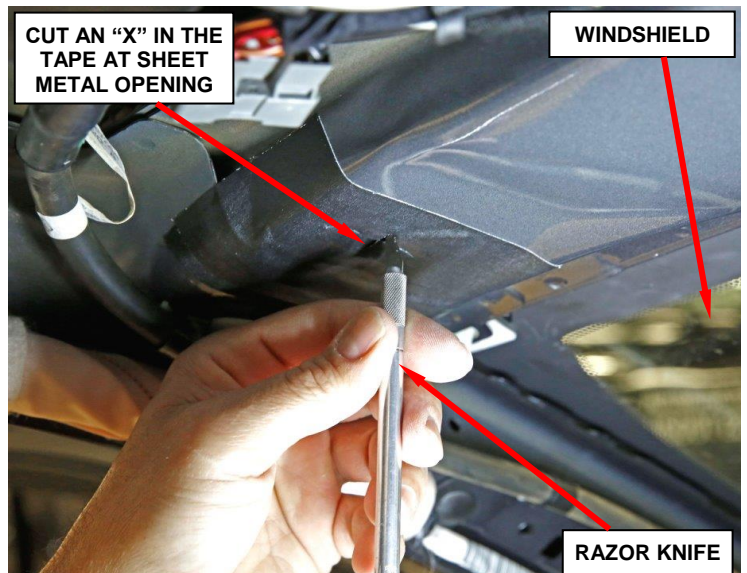

Figure 22 – Cut an “X” in the Tape (left side shown)
48. Using a razor knife, cut an “X” in the tape where it spans the sheet metal opening for the sun visor base (Figure 22).